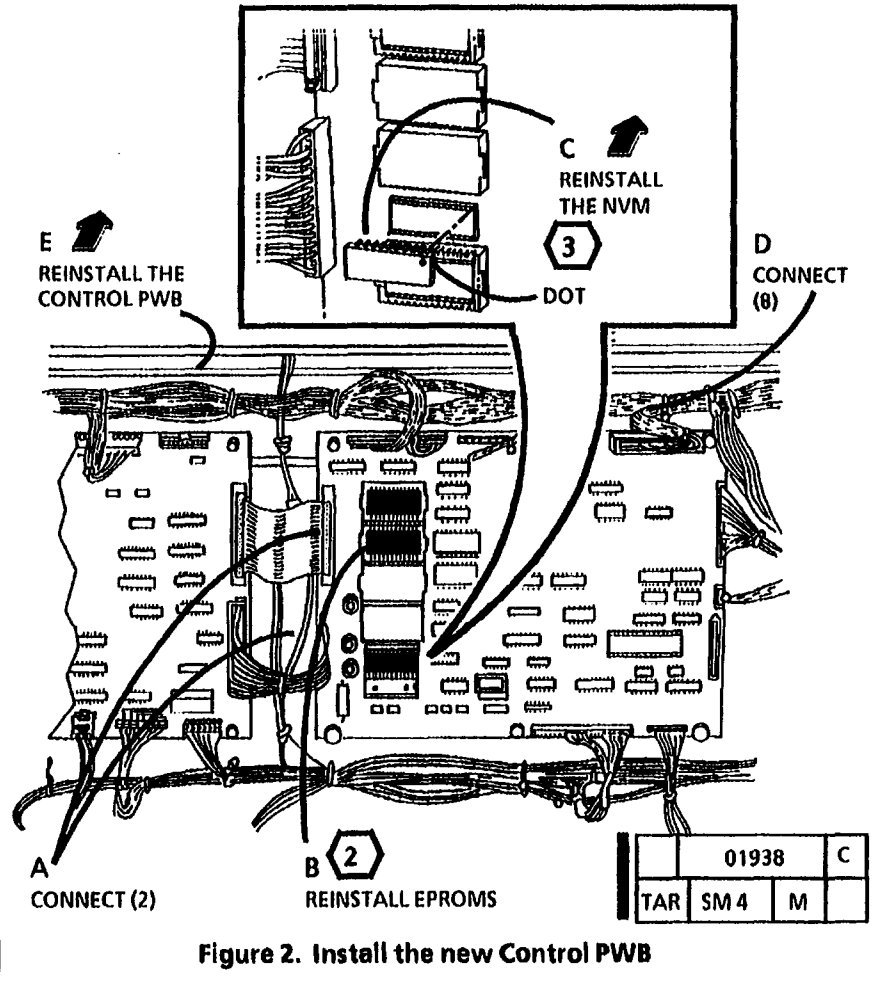

Figure 2. Install the new Control PWB
**3** **STEP 1 C:** Ensure that the dot on the NVM is located as shown in Figure 2.
1. (Figure 2): Install the new Control PWB.